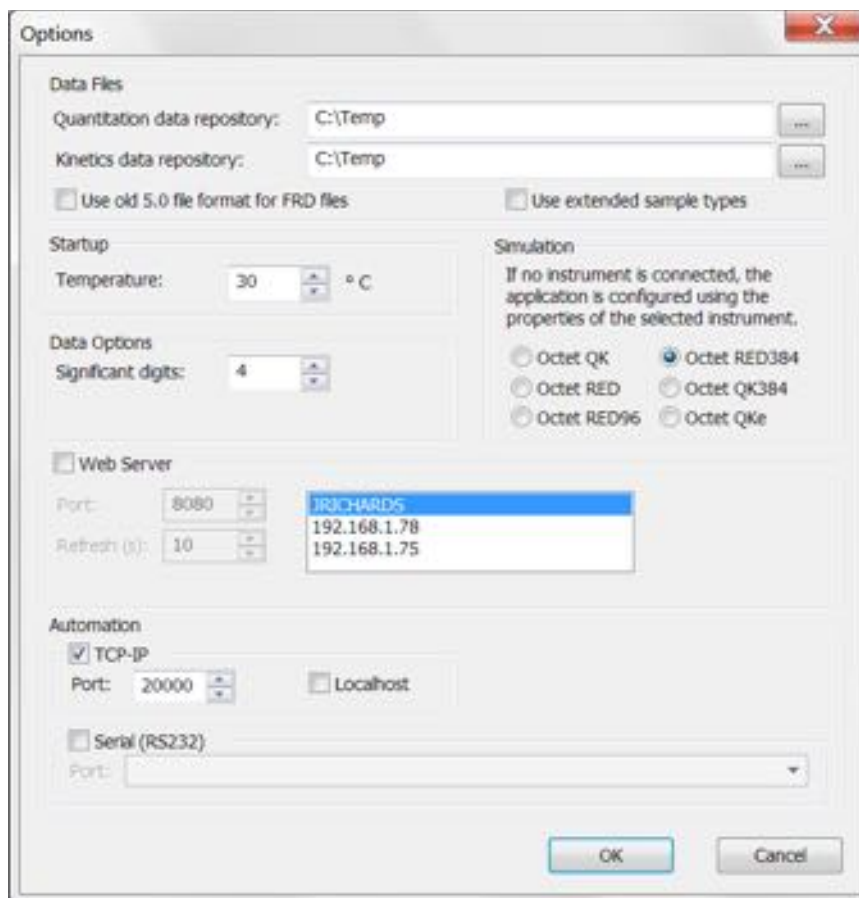

Figure A-1: Options Dialog Box—Automation Interface Selection
Before the Octet System Data Acquisition software can be controlled using an automation interface, the correct automation options must be set. To do this, go to **File > Options** (Figure A-1) and select the appropriate port in the **Automation** box.
1. In the Octet System Data Acquisition software, go to **File > Options** (see Figure A-1).
2. In the **Automation** box, select the communication port to be used (either TCP/IP or RS232, see Figure A-1).
4. Select the TCP/IP or RS-232 port selected previously in the Octet Data Acquisition software **Options** dialog box (Figure A-1). To connect locally using **localhost**, leave the **Machine** field blank.